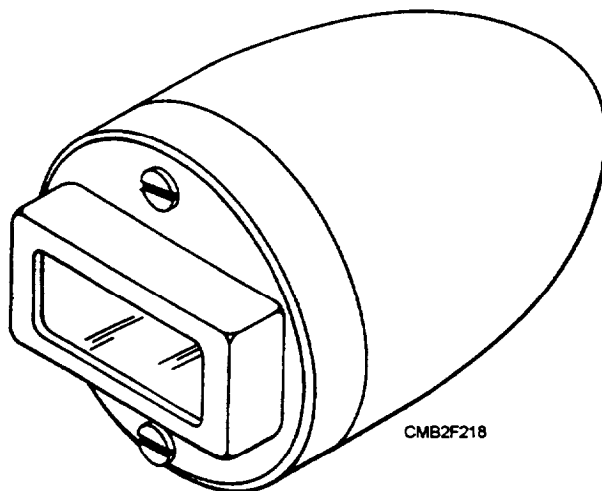

Figure 2-66.—Blackout stop/taillight and marker light.
- The BLACKOUT STOP/TAILLIGHT and MARKER LIGHT (fig. 2-66) are designed to be visible at a horizontal distance of 800 feet and not visible beyond 1,200 feet. The lights also must be invisible from the air above 400 feet with the vehicle on upgrades and downgrades of 20 percent. The horizontal beam cutoff for the lights is 60 degrees right and left of the beams center line at 100 feet.